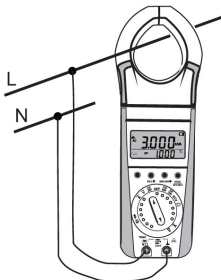

Fig. 15 Connection diagram for 1P2W power measurement
- Connect the voltage test leads as shown in figure 15.
- Connect the Clamp as shown in figure 15.